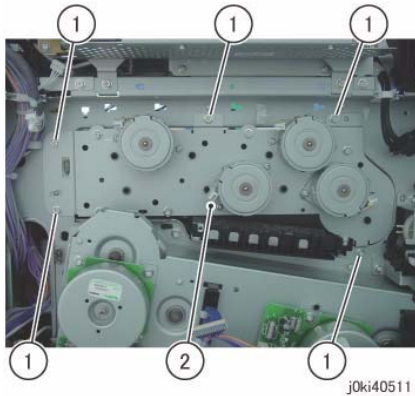

Figure 6 Remove the Toner Dispense Motor Assembly
15. Remove the Toner Dispense Motor Assembly. (Figure 6)